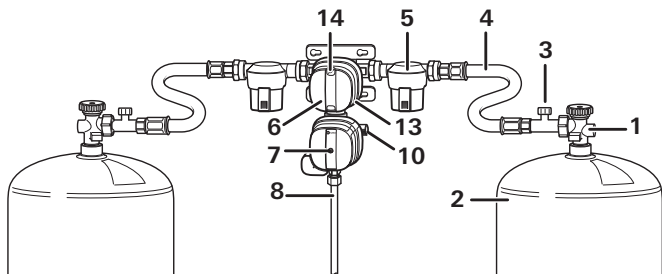

Figure 1a: DuoControl CS vertical
- Connect the gas cylinders (2) and make sure all hose connections are in good condition.
- Open the valves on both gas cylinders (1).
- Firmly press the hose rupture protection (figure 1a – 3) on the high-pressure hose for about 5 seconds. The display in the inspection glass (14) turns green.
- If the yellow reset button (7) is not pressed (“not ready for operation” position), reset the crash sensor.
- For example, turn control knob (13) to the left as far as possible (left connection = operating cylinder).
- Close the valve (1) of the empty gas cylinder (2).
- Remove the high-pressure hose (4) from the gas cylinder (2) and remove the clip-on adapter, if present.
- Open the full gas cylinder's valve (1).
- Press the hose rupture protection (figure 1a – 3) and if necessary the yellow reset button (7), turn it slightly clockwise and hold it for 10 seconds.